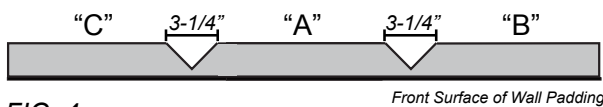

FIG. 4
- For an outside corner, remove sections of foam as shown in Fig. 4